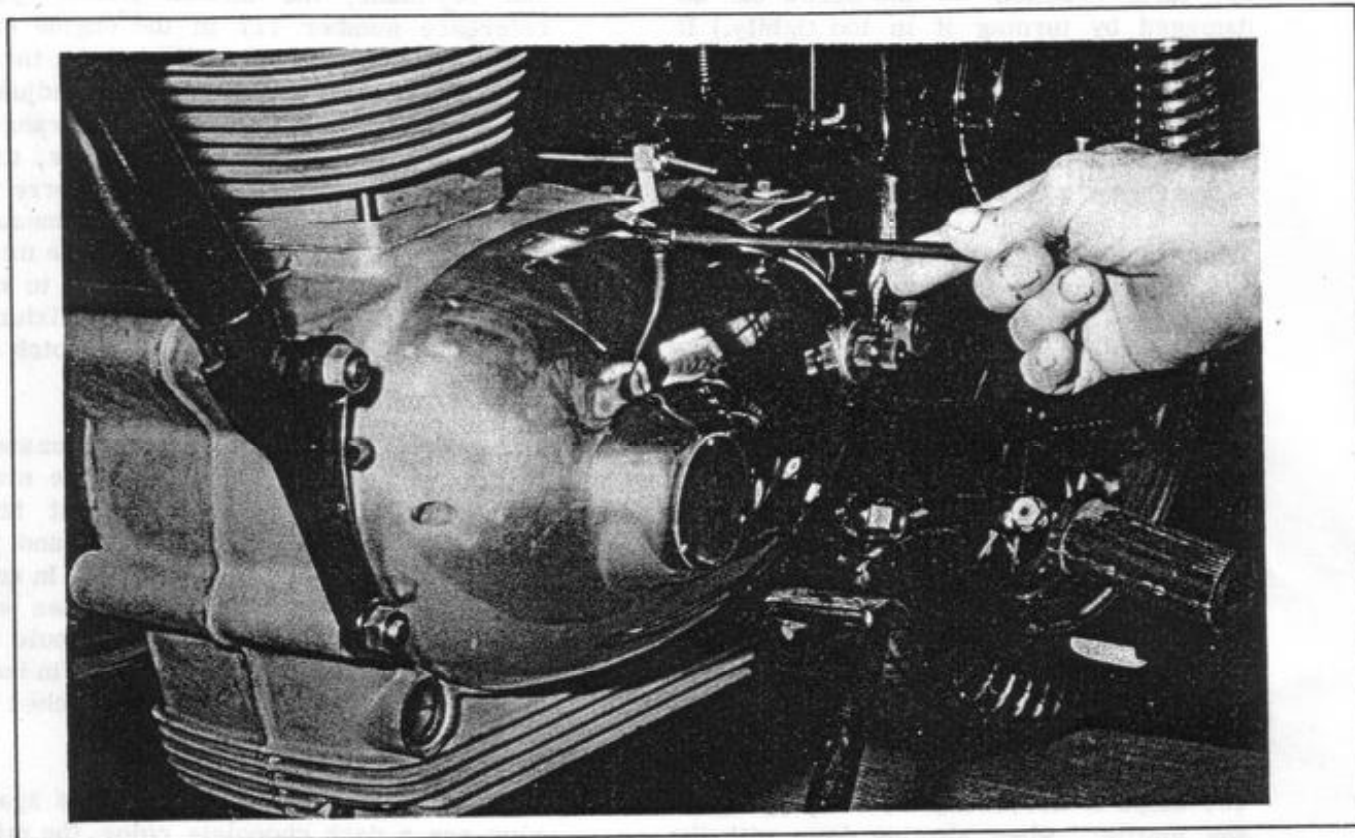

Figure 37.
17. Use tool A to remove the screws holding the left crankcase cover and slide the cover off the two locating dowels and the kickstarter shaft (Figure 37). Note that the two screws on the right side, upper and lower, are longer than the other three because they pass through the locating dowels.